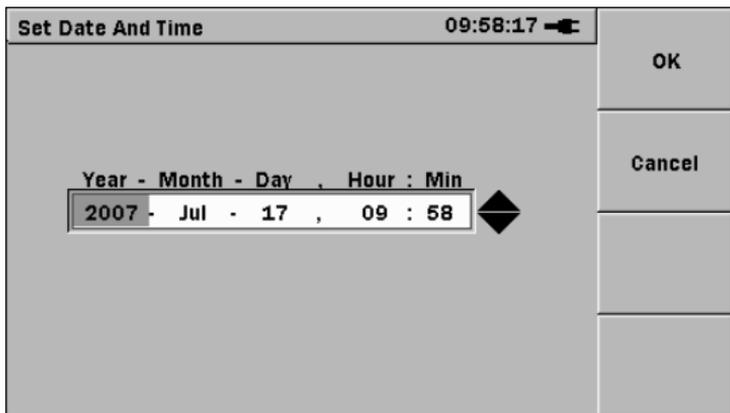

Figure 3-9: Set Date And Time Screen
- a. Press the **Set key**. The Set Date And Time screen appears (see Figure 3-9 on page 3-11).